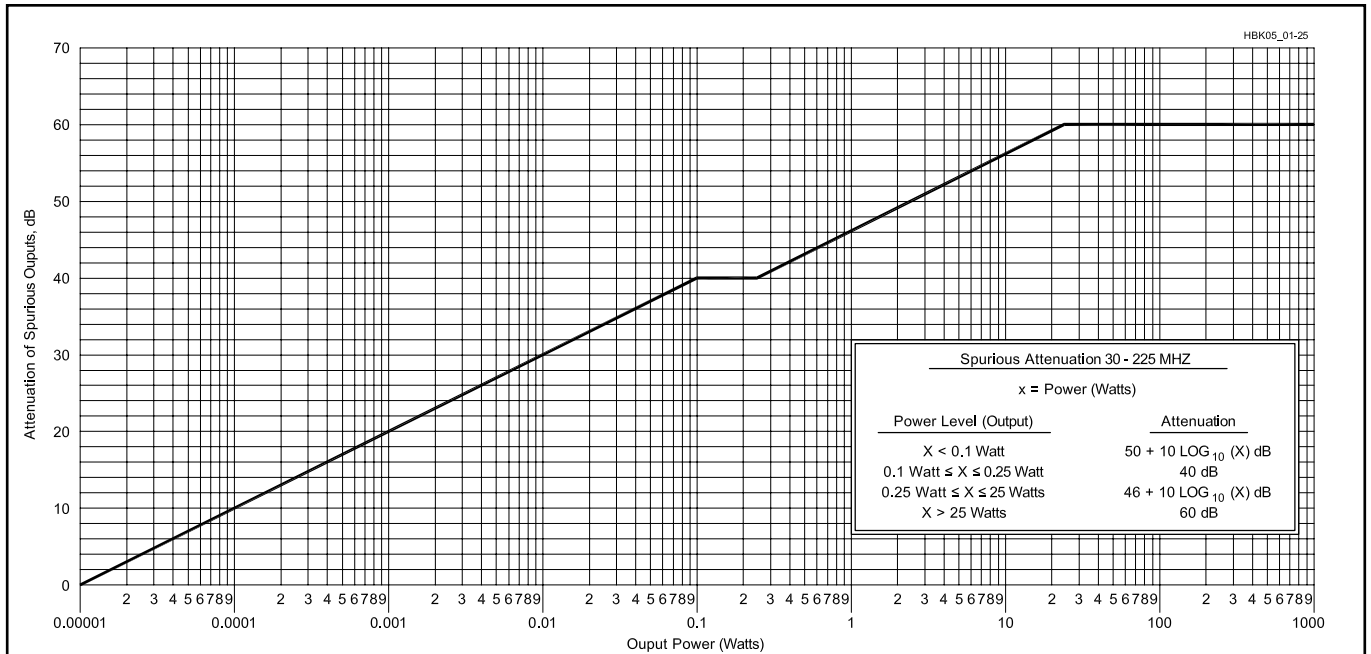

Fig 27.2 — Required attenuation of spurious outputs, 30-225 MHz.
The bandwidth of a signal is defined by §97.3(a)(8) while the paragraphs of §97.307 define the technical standards amateur transmissions must meet. Paragraph (c) defines the rules for interference caused by spurious emissions. As illustrated in **Fig 27.1**, modulation sidebands outside the necessary bandwidth are considered *out-of-band* emissions, while harmonics and parasitic signals are considered *spurious emissions*. Paragraphs (d) and (e) specify absolute limits on spurious emissions, illustrated in **Fig 27.2**. Spurious emissions must not exceed these levels, whether or not the emissions are causing interference. If spurious emissions from your transmitter are causing interference, it's your responsibility to clean them up.